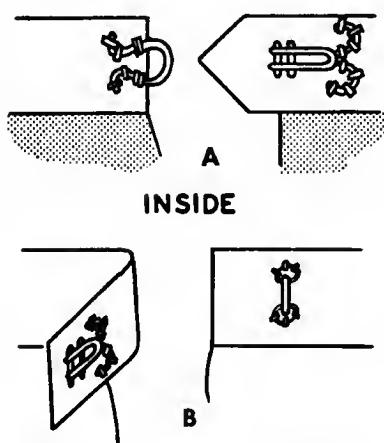

Fig. 316. Hooks and eyes.
- A round eye is used on the underside of the belt at the edge of the underlap with the eye protruding (Fig. 316, a).
- A straight eye is used when the hook is placed  $\frac{1}{8}$  to  $\frac{1}{16}$  in. from the edge of the cloth on the underside of the overlap and the eye on the right side of the belt. The straight (bar) eye should meet the curved turning end of the hook (Fig. 316, b).